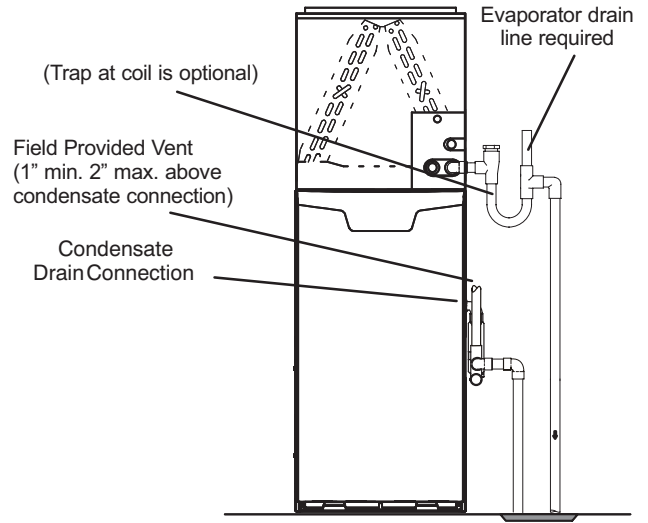
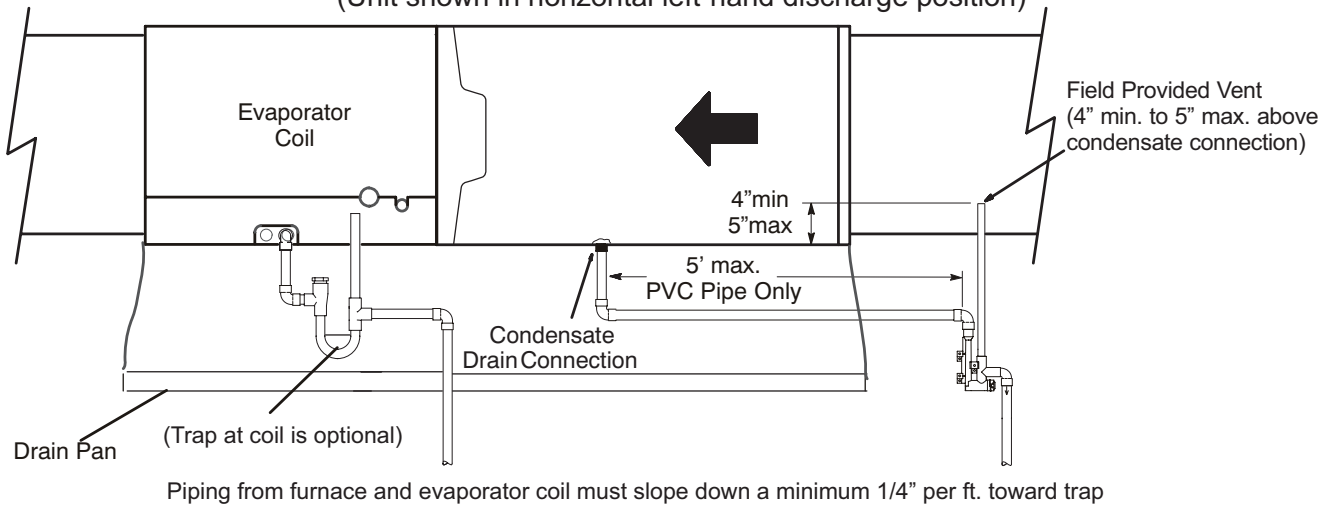
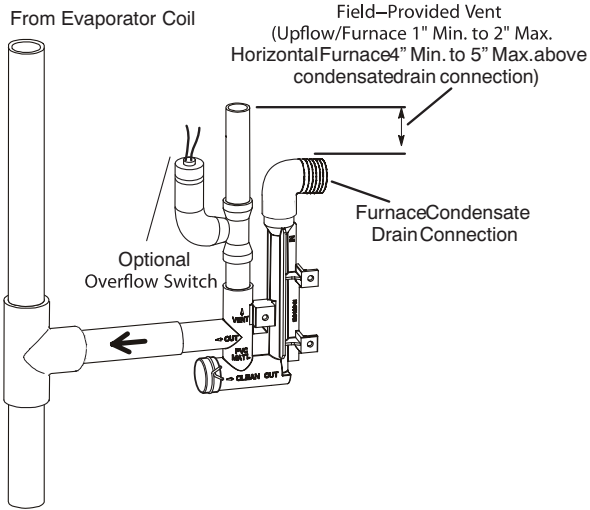
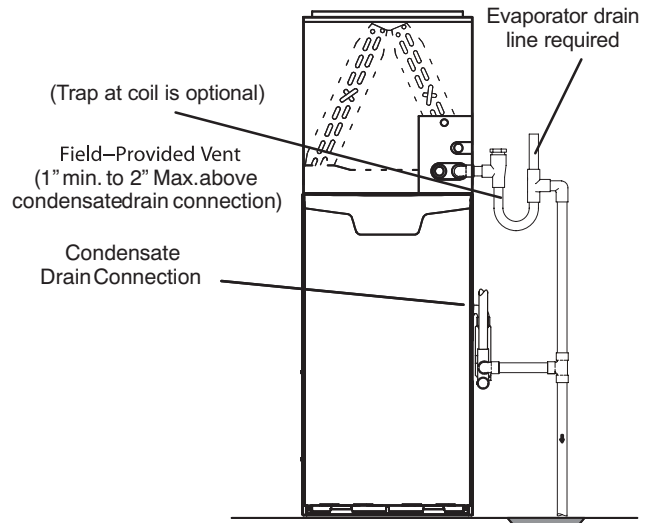

FIGURE 42
FIGURE 43
FIGURE 44
FIGURE 45
- 5 - FIGURE 42 and FIGURE 43 show the furnace and evaporator coil using a separate drain. If necessary the condensate line from the furnace and evaporator coil can drain together. See FIGURE 44, FIGURE 45 and FIGURE 46. **Upflow furnace (FIGURE 45)** - In upflow furnace applications the field provided vent must be a minimum 1" to a maximum 2" length above the condensate drain outlet connection. Any length above 2" may result in a flooded heat exchanger if the combined primary drain line were to become restricted.